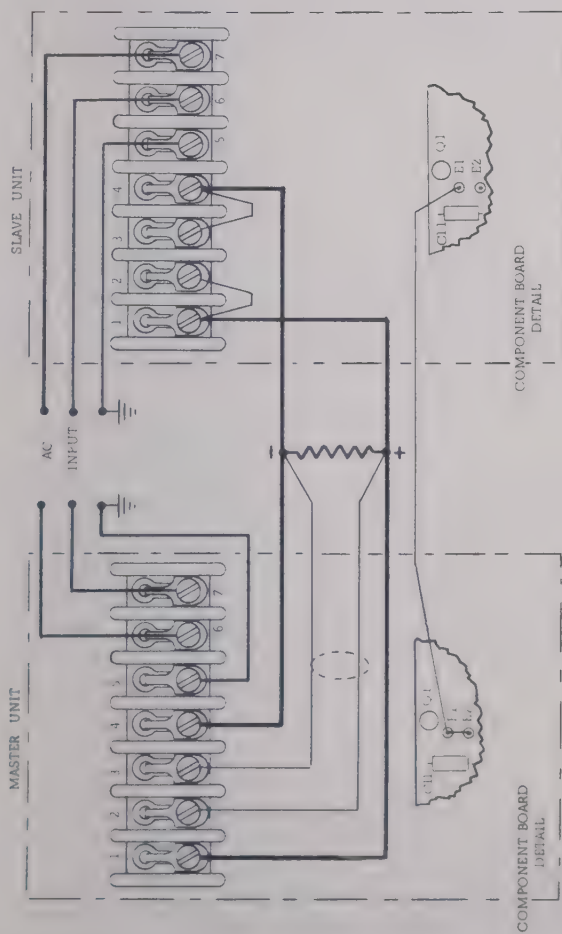

Figure 3-4. Parallel Operation
- d. Interconnect stud E1 of this slave unit and stud E1 of the master unit. (See Figure 3-4.)